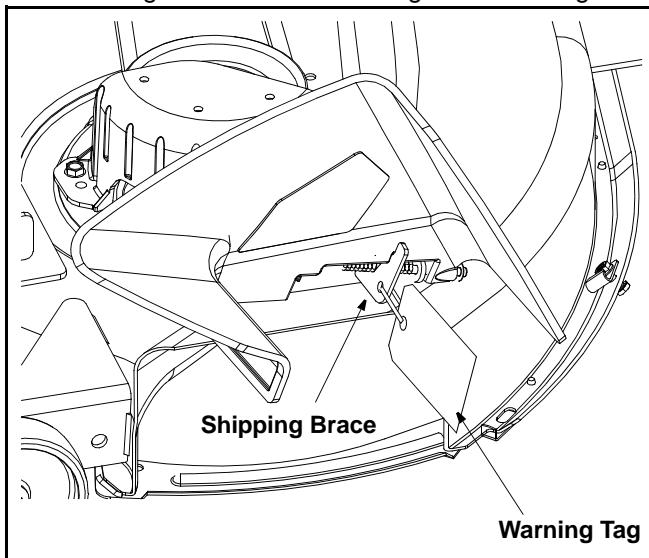

Figure 1
- Locate the shipping brace and warning tag found on the right side of the mower, between the discharge chute and the cutting deck. See Figure 1.